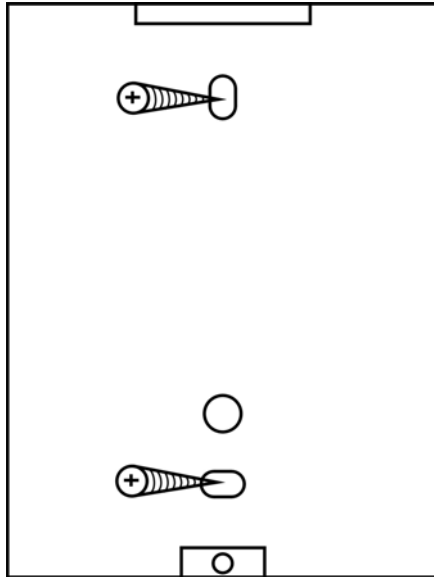

Figure 2
8.1.1 On the wall of the aperture size machine on the pan is playing well with a hole, or installed 2 existing junction box plus connecting. (Figure 2)